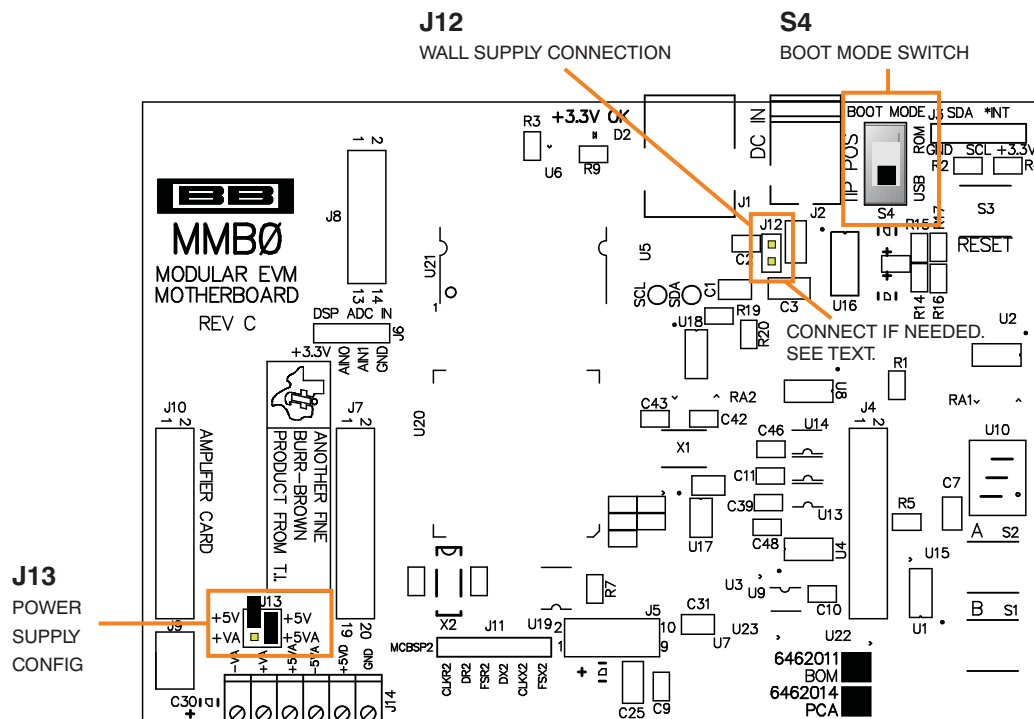

Figure 4. MMB0 Initial Setup
Step 2. Set the jumpers and switches on the MMB0 as shown in Figure 4: